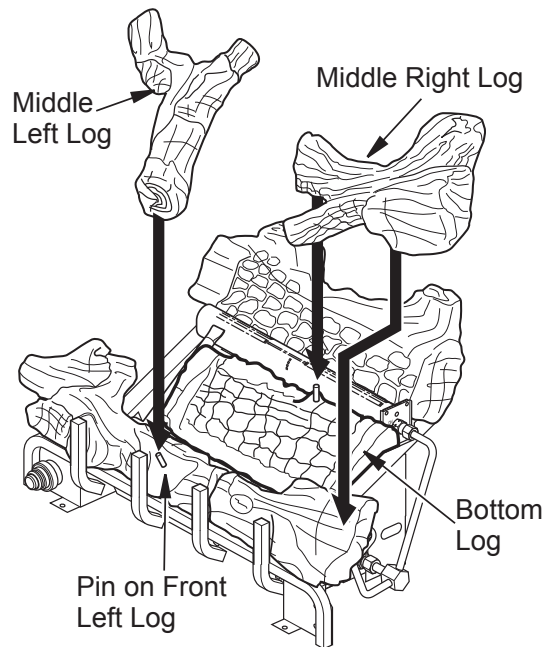

Figure 24 - Installing Log Sets
5. Place middle right log over front right and bottom logs as shown in **Figure 24**. Be sure hole in middle right log seats over pin in bottom log.
6. Place middle left log over front left and bottom logs as show in **Figure 24**. Be sure hole in middle left log seats over pin in front left log.